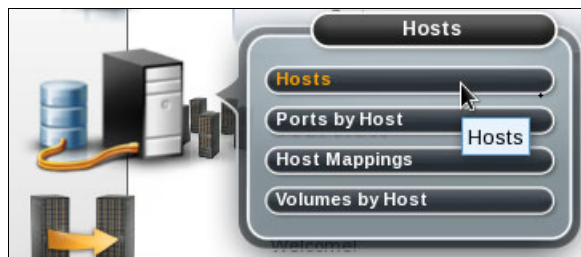

Figure 2-34 Hosts options
1. Click the Hosts image and select **Hosts**, as shown in Figure 2-34.